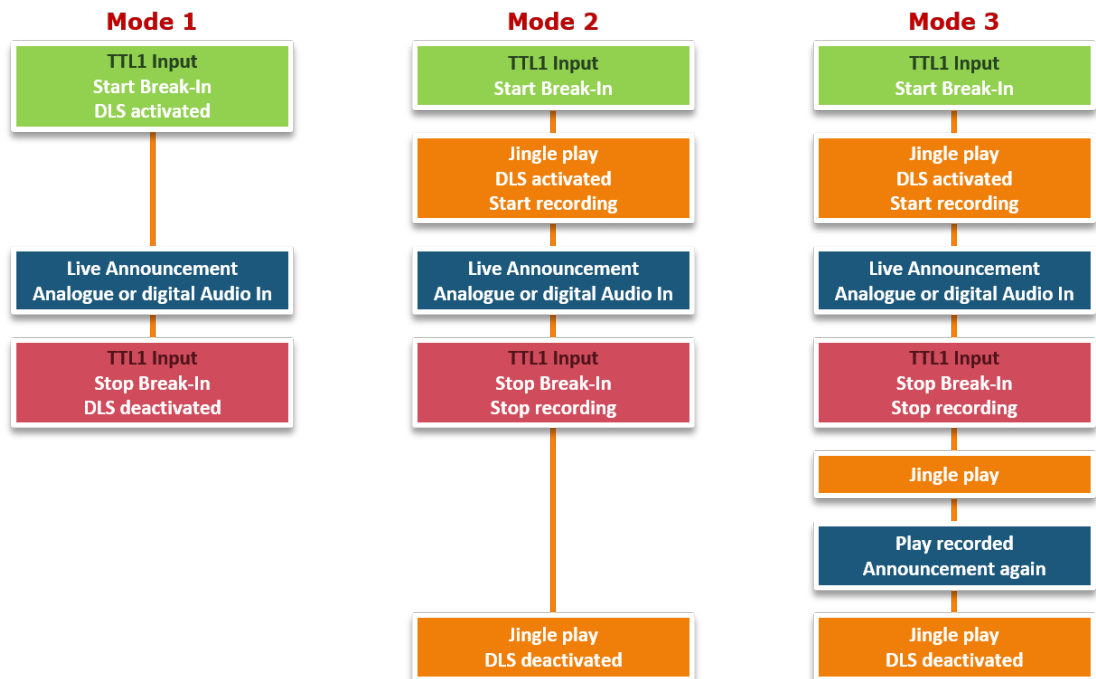
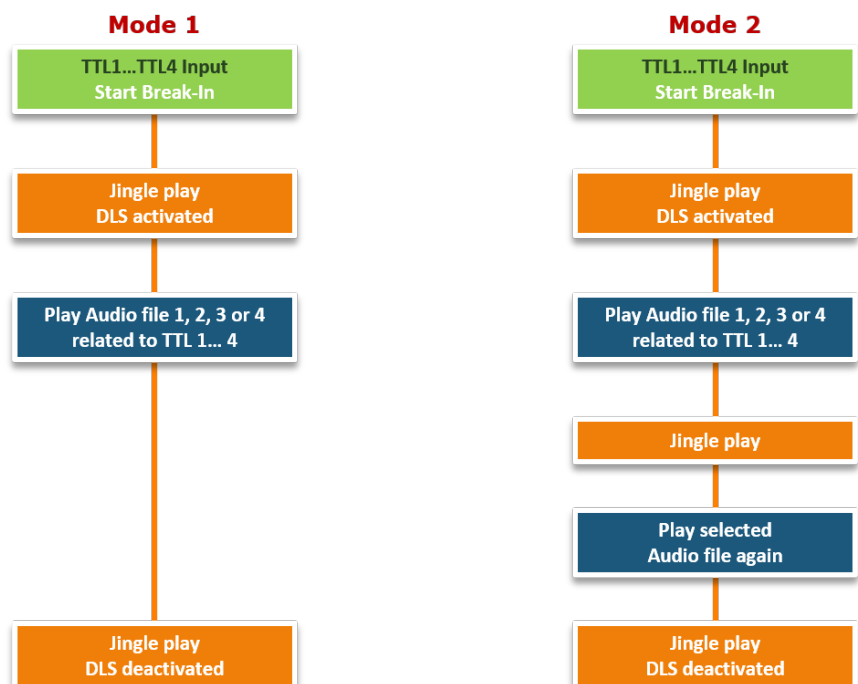

Figure 11: Live Audio Announcement Modes
Figure 12: File Announcement Modes
- The live Audio announcement sequences are shown in Figure 11, the file based Audio announcements are shown in Figure 12.